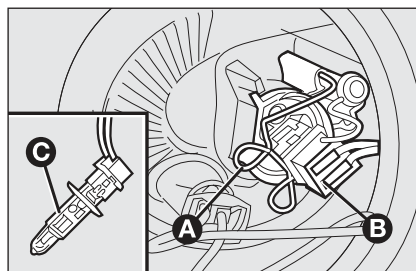

fig. 25
- ☐ release the bulb holder catch **A-fig. 25**;